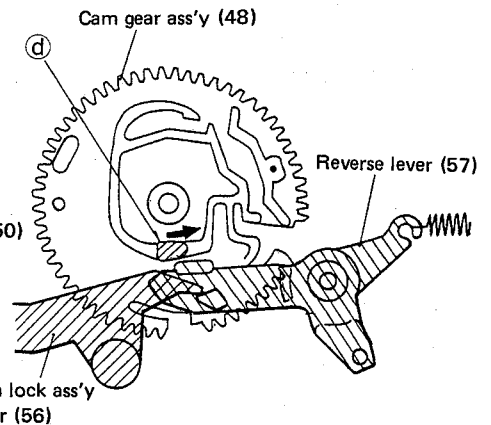

Fig. 15
(Fig. 15 shows the relative positions of the boss (d) of the cam gear assembly (48), reverse lever (57), and cam lock ass'y lever (56) in forward play mode. The boss (d) passes above (57) and (56).)